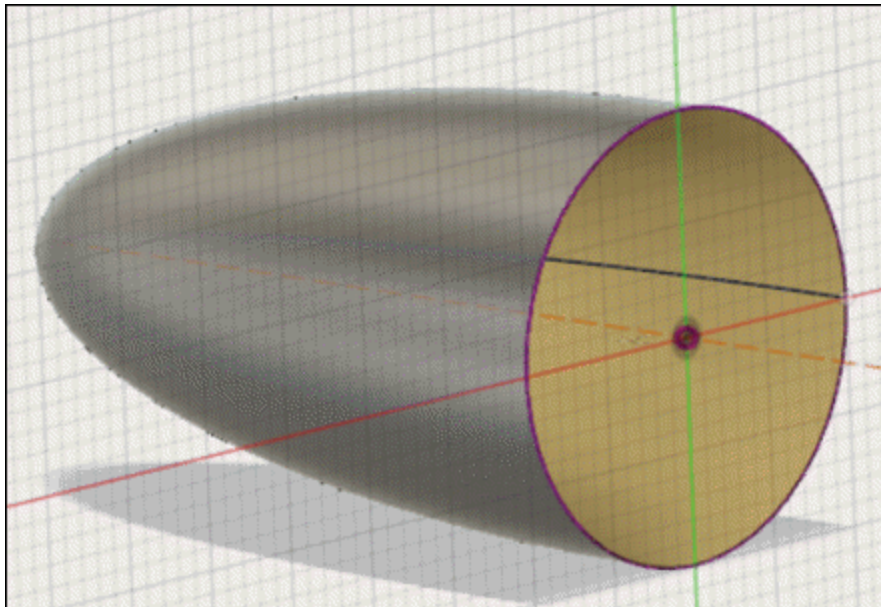

Figure-40. Edge projected on plane
- Start a new sketch and project the round edge of nose on **Right** plane as shown in Figure-40. Exit the sketching environment.